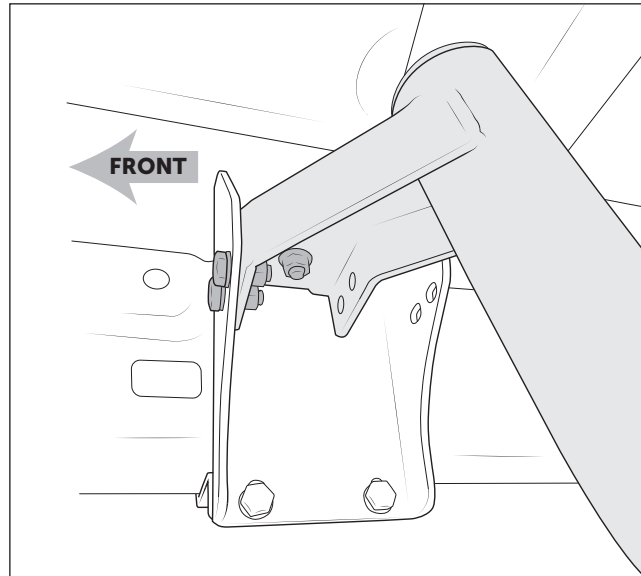

Figure 36: Driver's Side Shown
- Using three of the supplied M10x25 Hex head bolts, washers, and flange nuts, loosely install the top side of the corner assembly onto the previously installed frame rail bracket (fig. 36). NOTE: 2019+ Coil Spring Suspension option shown.
- Torque upper corner assembly nuts (fig. 36) to **43 lb-ft.**